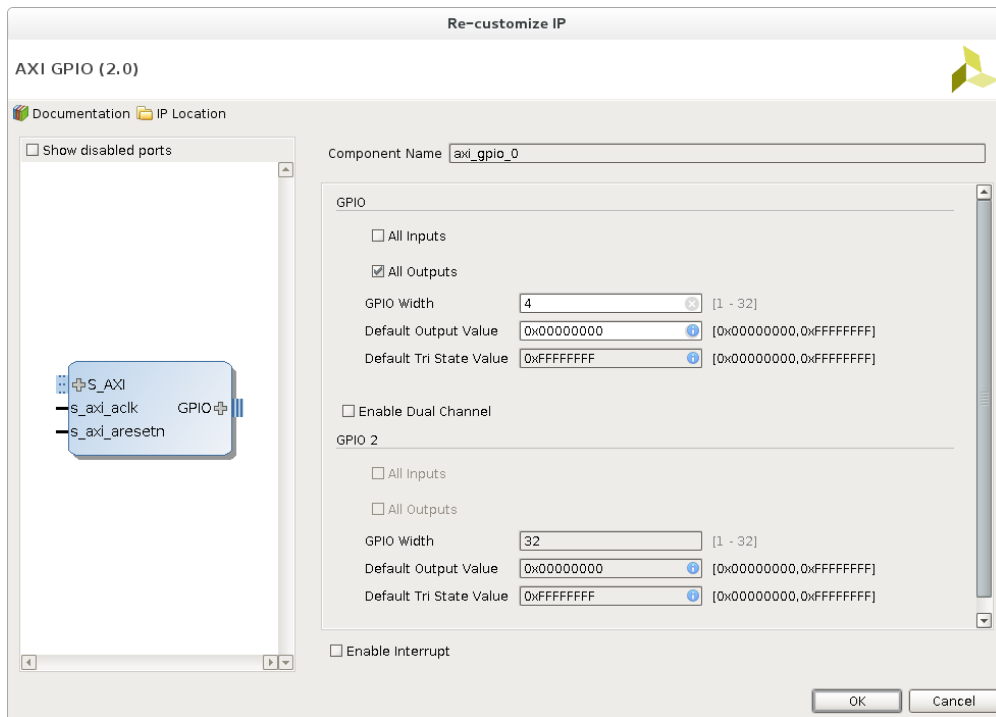

Figure 4: Customize GPIO
- (h) The processor is set up, now we need to add General Purpose IO (GPIO) blocks to interact with LEDs, Switches and Buttons on the ZYBO Z7-10 board. Right click and select 'ADD IP'. Search for 'GPIO' and select 'AXI GPIO' to add it to the design. Double click on the GPIO block named 'axi\_gpio\_0' and select the 'IP configuration' tab. Set the following configuration for the GPIO and click 'OK' (Figure 4).